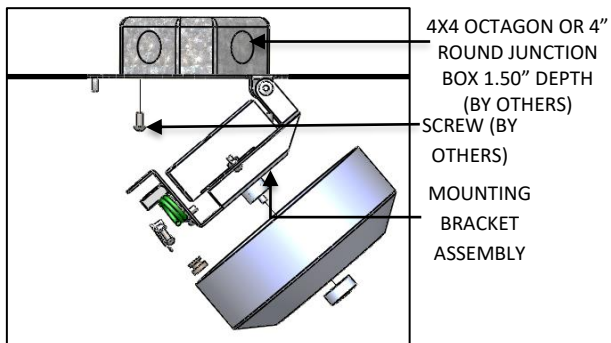

FIG. 8 – MOUNTING BRACKET ASSEMBLY INSTALLATION
3. Attach MOUNTING BRACKET to JUNCTION BOX (by other) as shown below in FIG. 8.